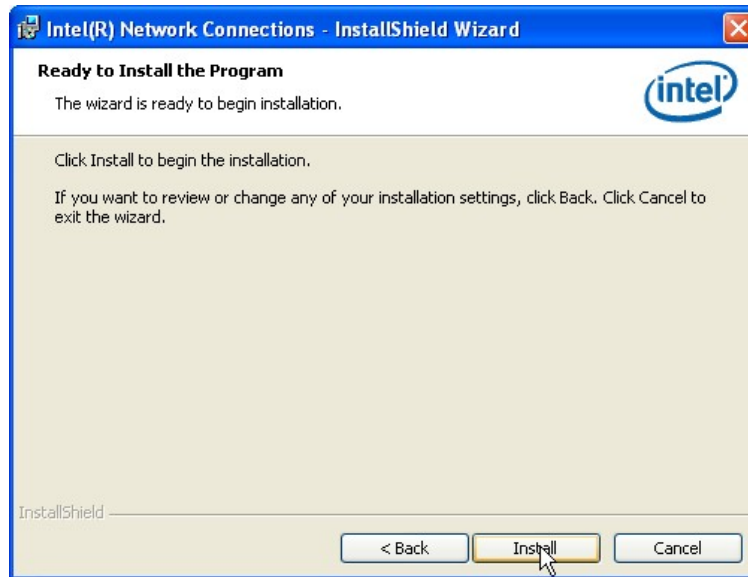

Figure 6-17: LAN Driver Installation
Step 14: The **Ready to Install the Program** screen in **Figure 6-17** appears.